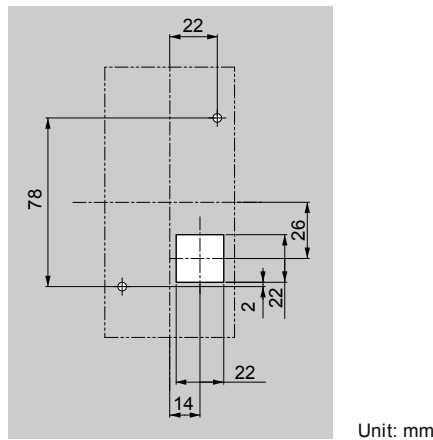

Figure 2.14 Panel Cut-Out Dimensions (External/Face-Mount Installation)
1. Cut an opening in the enclosure panel for the digital operator as shown in Figure 2.14.